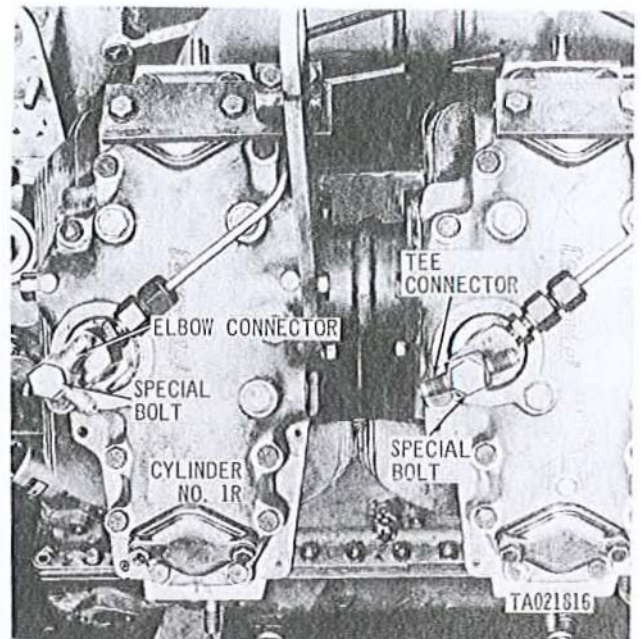

Figure 3-47. Removing or installing fuel injector nozzle, fuel tube elbow and tee connector, and special bolts.
c. Remove special bolt attaching fuel tube elbow connector (fig. 3-47) to nozzle and holder in cylinder no. 1R, 6R, and 6L and remove elbow connectors.